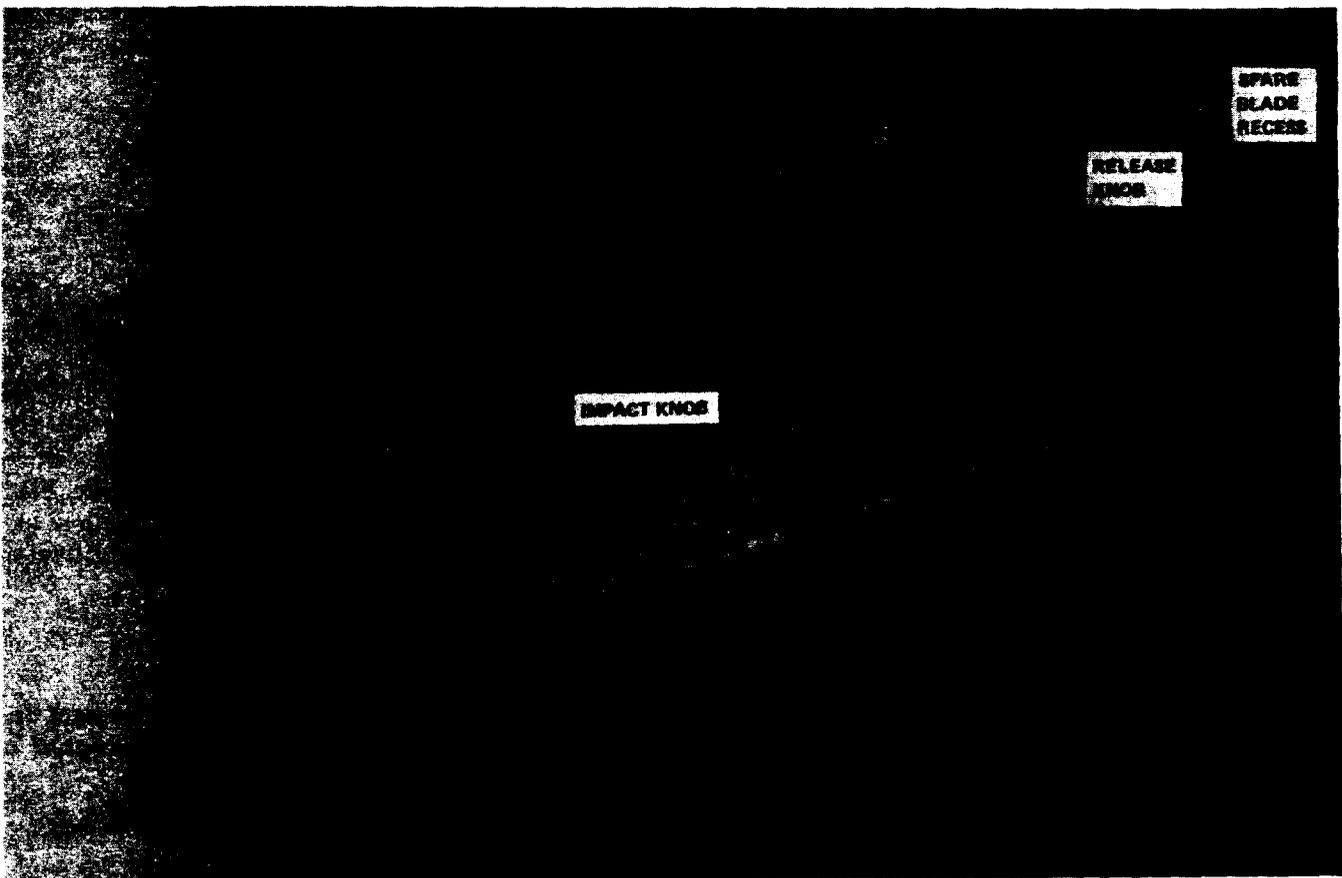

Fig. 2—D Impact Tool
2.07 The D impact tool (Fig. 2) consists of a plastic handle with two spring-loaded control knobs and a spare blade storage compartment.